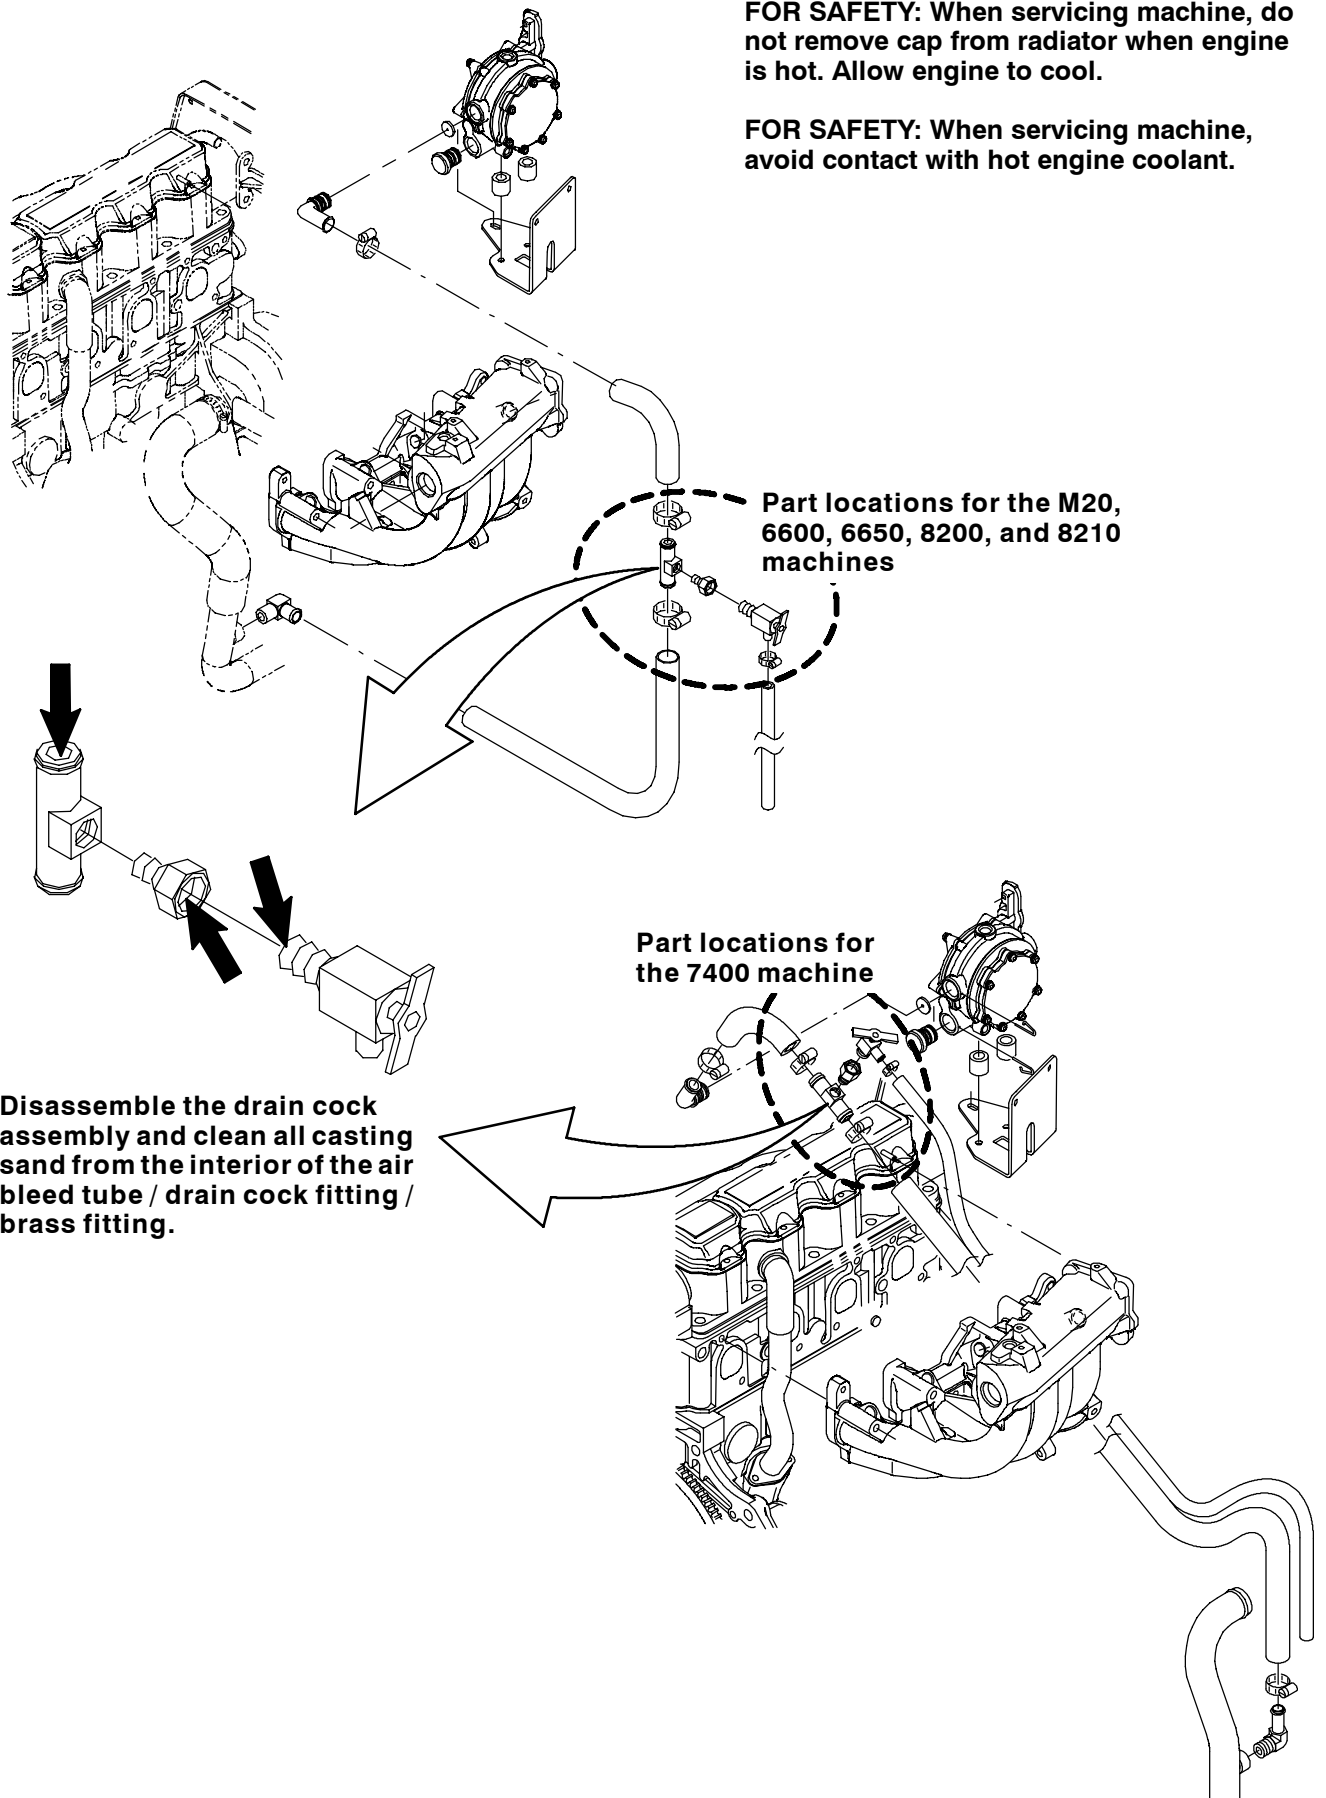

FIG. 2
1. Remove the drain cock assembly from the coolant line. Refer to Fig. 2 on the following page for part locations .
- Questions, contact the Tennant Customer Service Department at (800) 553-8033 or (763) 513-2850.